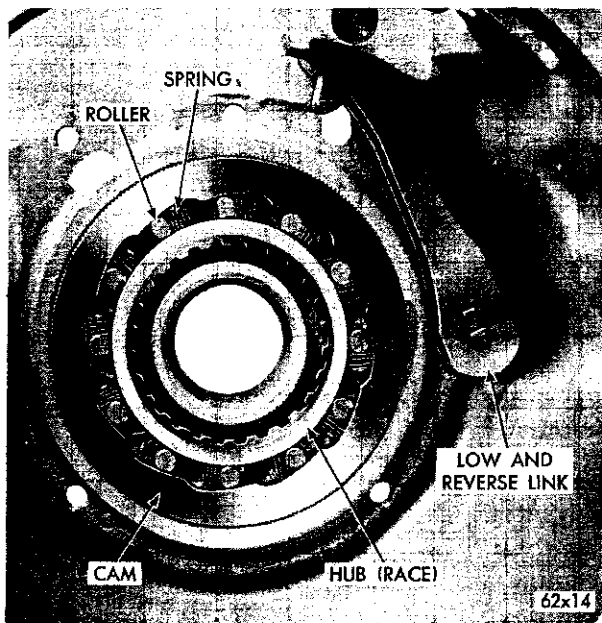
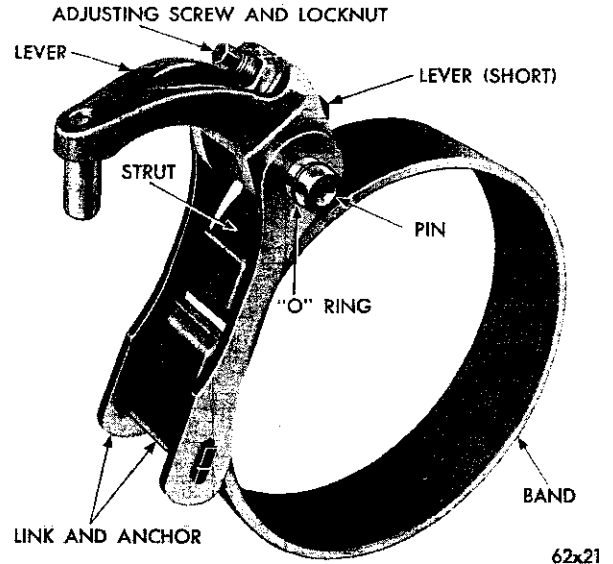

Fig. 81—Overrunning Clutch, Low and Reverse Band Link
Fig. 82—Low-Reverse Band and Linkage
(1) With the transmission case in an upright position, insert the clutch race inside the cam. Install the overrunning clutch rollers and springs exactly as shown in Figure 81.
(2) Compress the low and reverse servo piston spring by using the Engine Valve Spring Compressor Tool C-3422, then install the snap ring.
(3) Position the rear band in the case, install the short strut, then connect the long lever and strut to the band (Fig. 82). Screw in the band adjuster just enough to hold the struts in place. Be sure the long lever and strut assembly is installed, as shown in Figure 81 to provide a running clearance for the low and reverse drum. Install the low-reverse drum.